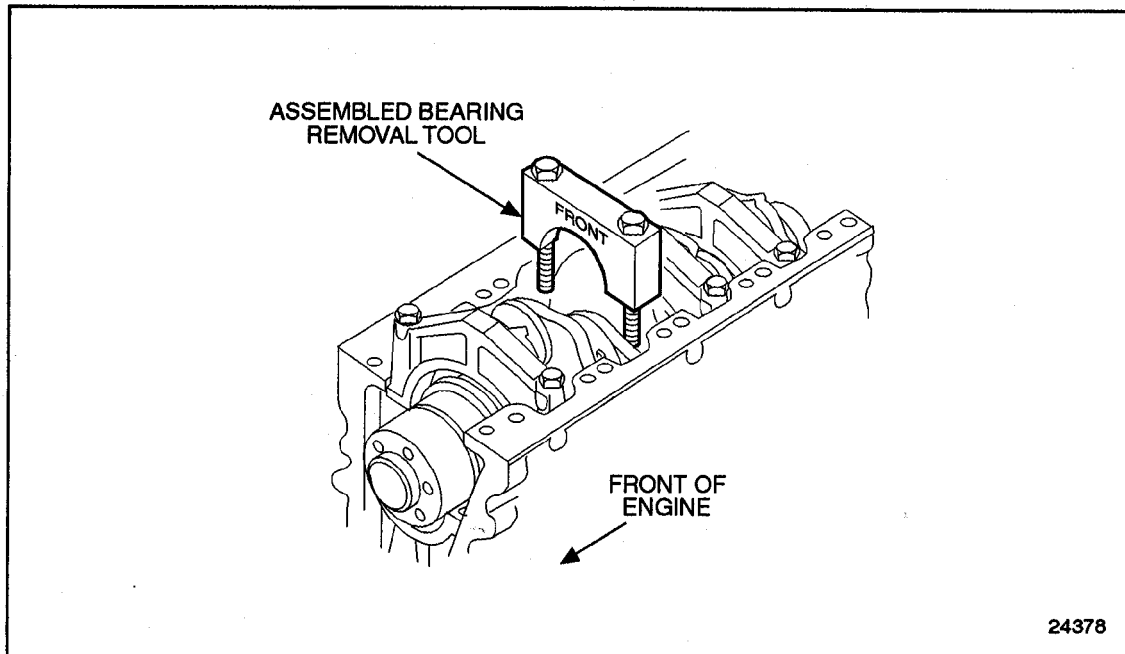

Figure 1-147 Upper Main Bearing Shell Remover Tool Installation
8. Using the main bearing cap bolts and washer removed from the engine, install the assembled main bearing cap remover and installer tool to the main bearing saddle being worked on. The word "Front" stamped on the tool must face the front of the engine. Be sure that the roll pin in the oil delivery hole registers with the cutout section of the bearing shell tool before tightening the main bearing cap bolts. See Figure 1-147.